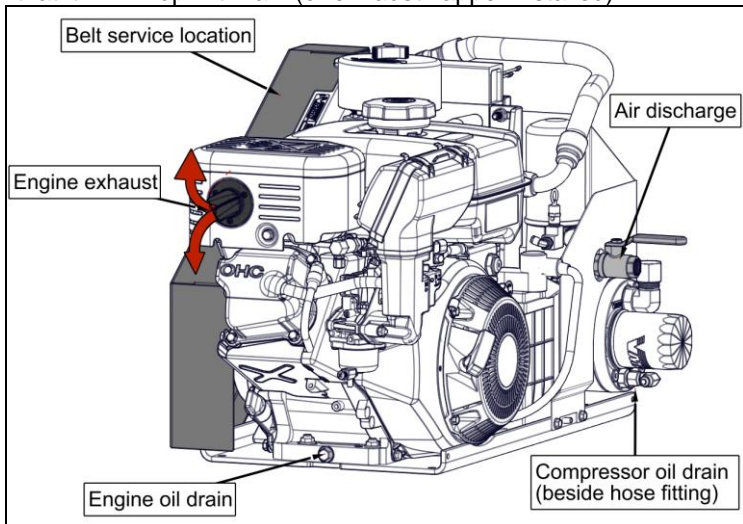

Figure 7 – Installation considerations
- Remove the #8 cap from the air outlet, found near the pressure relief valve on the WHASP tank, to the right of the battery. Connect to the air delivery system (Figure 7).